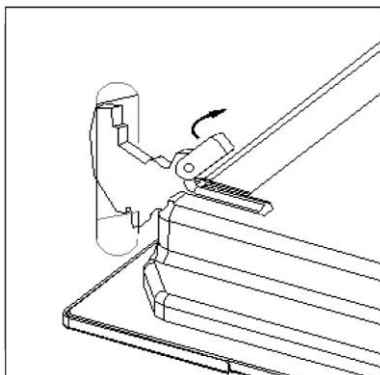

Figure 8
2. Lift up and turn the small levers situated on the two hinges (See Figure 8)